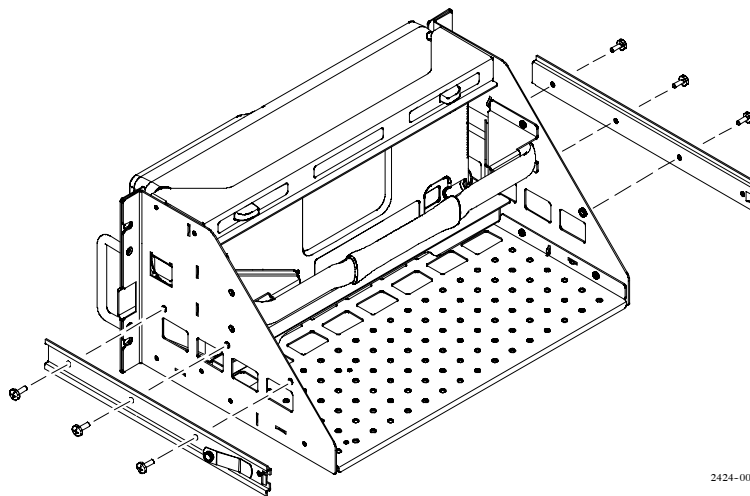

Figure 13: Install slide tracks onto rack adapter
- b. Install the front left- and right-side track sections on the instrument using six of the 10-32 x $\frac{3}{8}$ inch slotted screws tightened to 28 in-lb. See Figure 13.